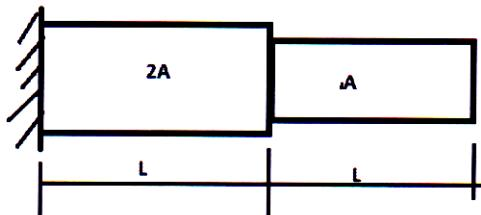

Figure 5
b) Find the natural frequencies of longitudinal vibrations of the same stepped shaft of area A and $2A$ of equal length(L), as shown in figure 5. Use Lumped mass matrix. [10]